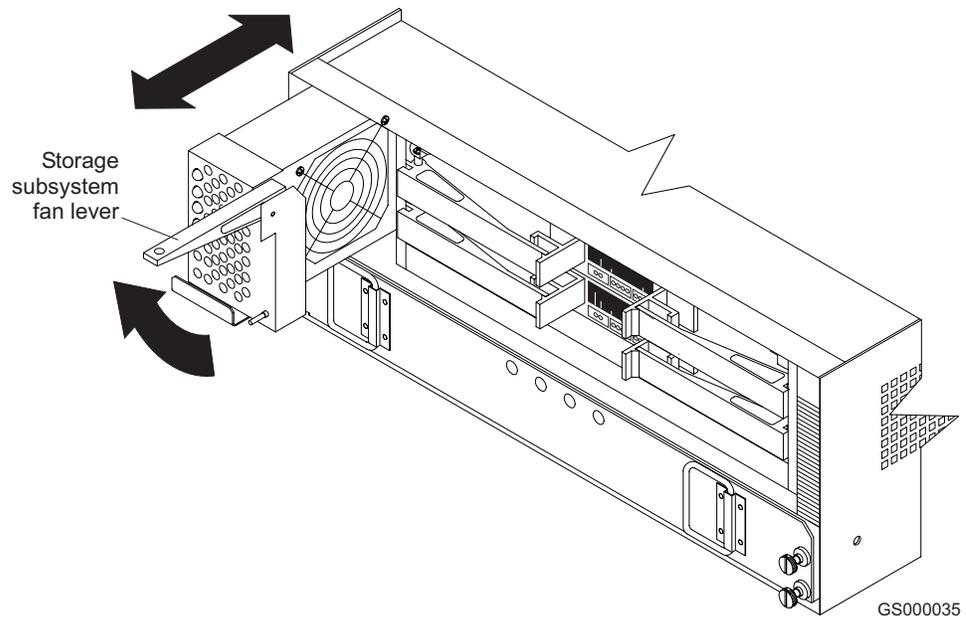

Figure 102. Removing and installing the storage subsystem fan
2. Remove the failed storage subsystem fan, as shown in Figure 102 on page 152.